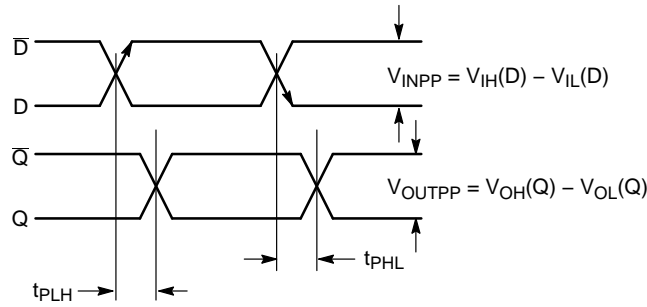

Figure 10. AC Reference Measurement
25. See Figure 10. $t_{skew} = |t_{PLH} - t_{PHL}|$ for a nominal 50% differential clock input waveform.